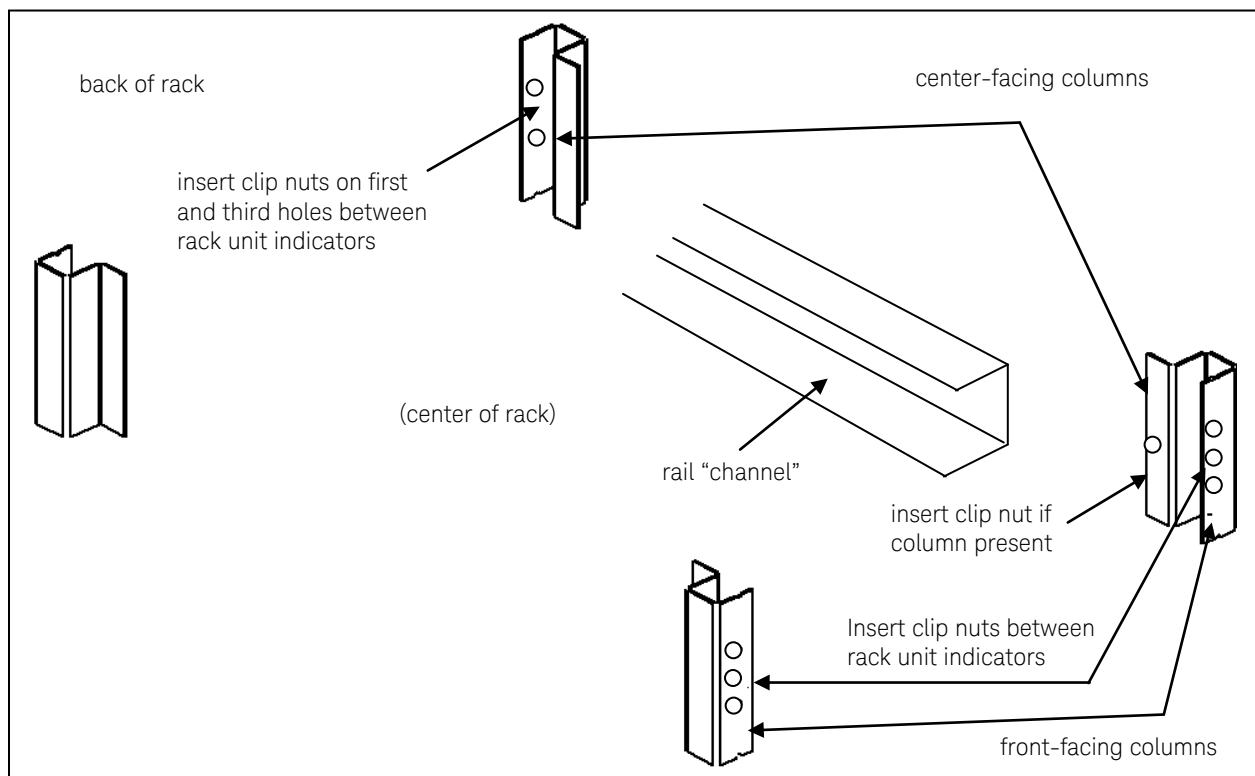

Figure 3. Rack Column and Shelf Rail Orientation
1. Select the vertical position in the rack between any two adjacent EIA unit indicators where the L4400 instrument is to be installed. Insert clip-on nuts (item 5) on the three holes between the unit indicators. Place nuts on both the left and right front-facing columns (Figure 3).
If center-facing columns with holes are present on the frame, insert a clip-on nut on the hole perpendicular to the center hole on the front facing column. See Figure 3.
2. With the rail "channel" facing the center of the rack, connect the rail (item 8) to the front facing column using a 10-32 flathead screw (item 4) and the center clip-on nut on the front-facing column. Repeat for the rail on the opposite column. Ensure the rail channel faces the center of the rack.
If the rack has center-facing columns (Figure 3), insert a 10-32 pan head screw (item 3) through the rail opening and clip nut (perpendicular to the front-facing column). Repeat for the rail on the opposite column.
4. Attach the rear brackets (item 10) to the rail ends using two 10-32 pan head screws (item 3) and two 10-32 nuts with lock washers (item 6) per rail. Adjust the bracket along the rail until the bracket end aligns with (covers) the rack's rear-facing columns. Tighten the 10-32 pan head screws to firmly connect the bracket to the rail and maintain the rail length.